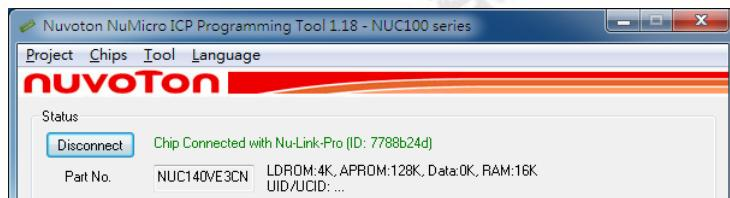
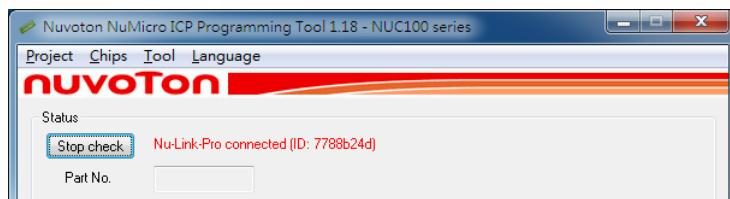

Figure 4-7 Nu-Link Adapter Connected with a Target Chip Detected
Figure 4-8 Nu-Link Adapter Connected with No Target Chip Detected
Step 8a: After the **Connect** button is clicked, the ICP Tool will be connected with the Nu-Link Adapter, and a SWD port will be detected. Figure 4-7 shows that the ICP Tool has been connected with the Nu-Link Adapter and a target chip is detected. At this time, the user can start programming the target chip.
Step 8b: Figure 4-8 shows that the ICP Tool has been connected with the Nu-Link Adapter with no target chip detected. The ICP tool will continue detecting the target chip until the **Stop Check** button is clicked. At this time, the user cannot program any chip, but can use the offline programming to save the offline programming information in the Nu-Link Adapter.
Step 9: Click the **Disconnect** button if programming is not needed (as shown in Figure 4-7). Or click the **Stop Check** button to disconnect the ICP Tool with the Nu-Link Adapter and leave the Nu-Link Adapter unused (as shown in Figure 4-8). As such, the Nu-Link Adapter can be connected with another tool.